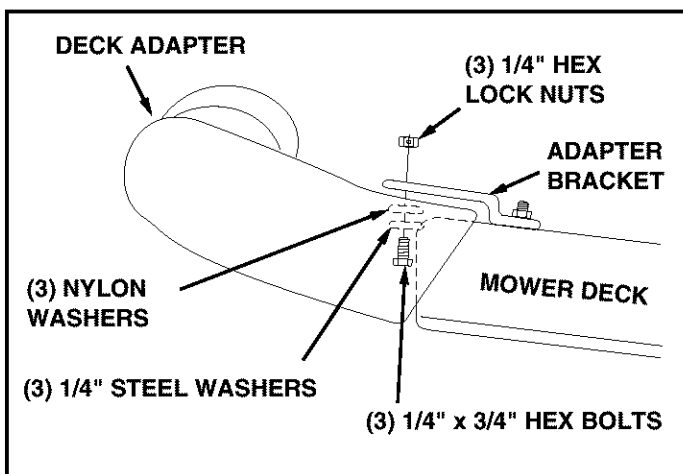

FIGURE 26
- With deck adapter positioned correctly over the discharge opening, use the adapter bracket as a template and drill three 9/32" diameter holes in the top of the deck adapter. See figure 26.
- Bolt deck adapter to bracket using three 1/4" x 3/4" bolts, nylon washers, 1/4" flat washers and 1/4" hex lock nuts. Nylon washers should be against the inside of the deck adapter. See figure 26.